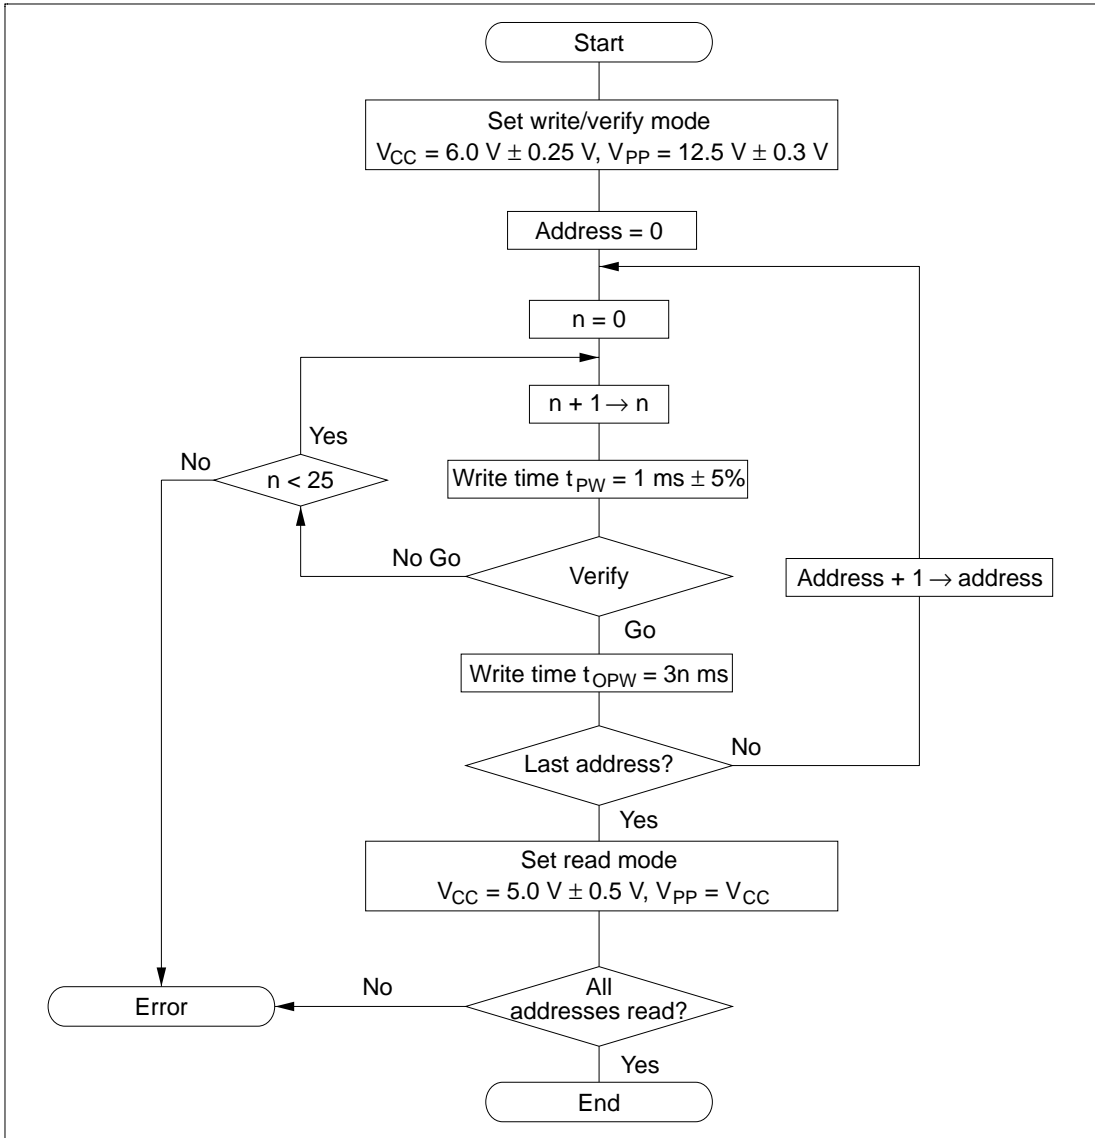
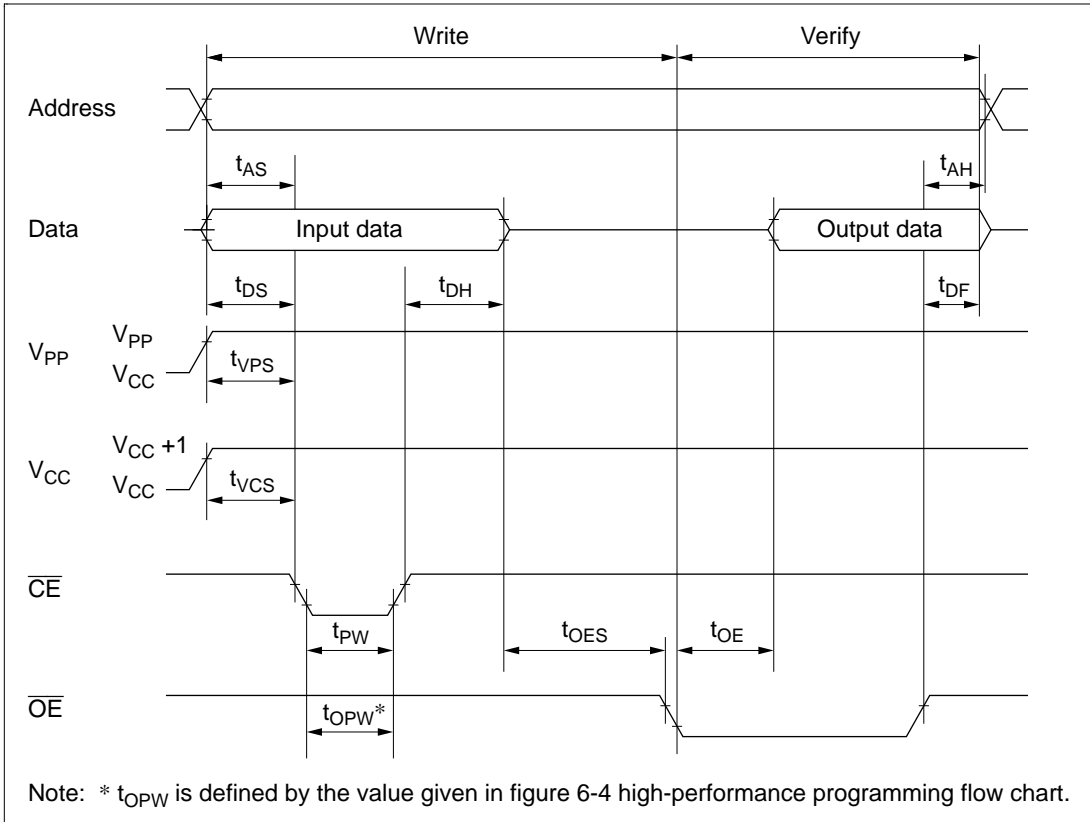

Figure 6.4 High-Performance Programming Flowchart
Figure 6.5 PROM Write/Verify Timing
The basic flow of this high-performance programming method is shown in figure 6.4. Table 6.4 and table 6.5 give the electrical characteristics in programming mode. Figure 6.5 shows a write/verify timing diagram.
| Address setup time | t_{AS} | 2 | — | — | μs | Figure 6.5* ¹ |
3. t_{OPW} is defined by the value given in figure 6.4 high-performance programming flow chart.